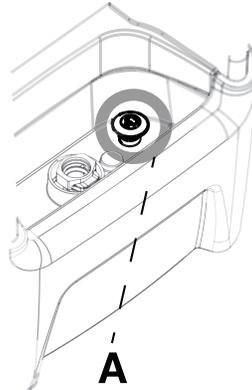

Figure 31: Drain plug
20. Pull up on the controller drain plug (Figure 31 on page 43) to open the drain.